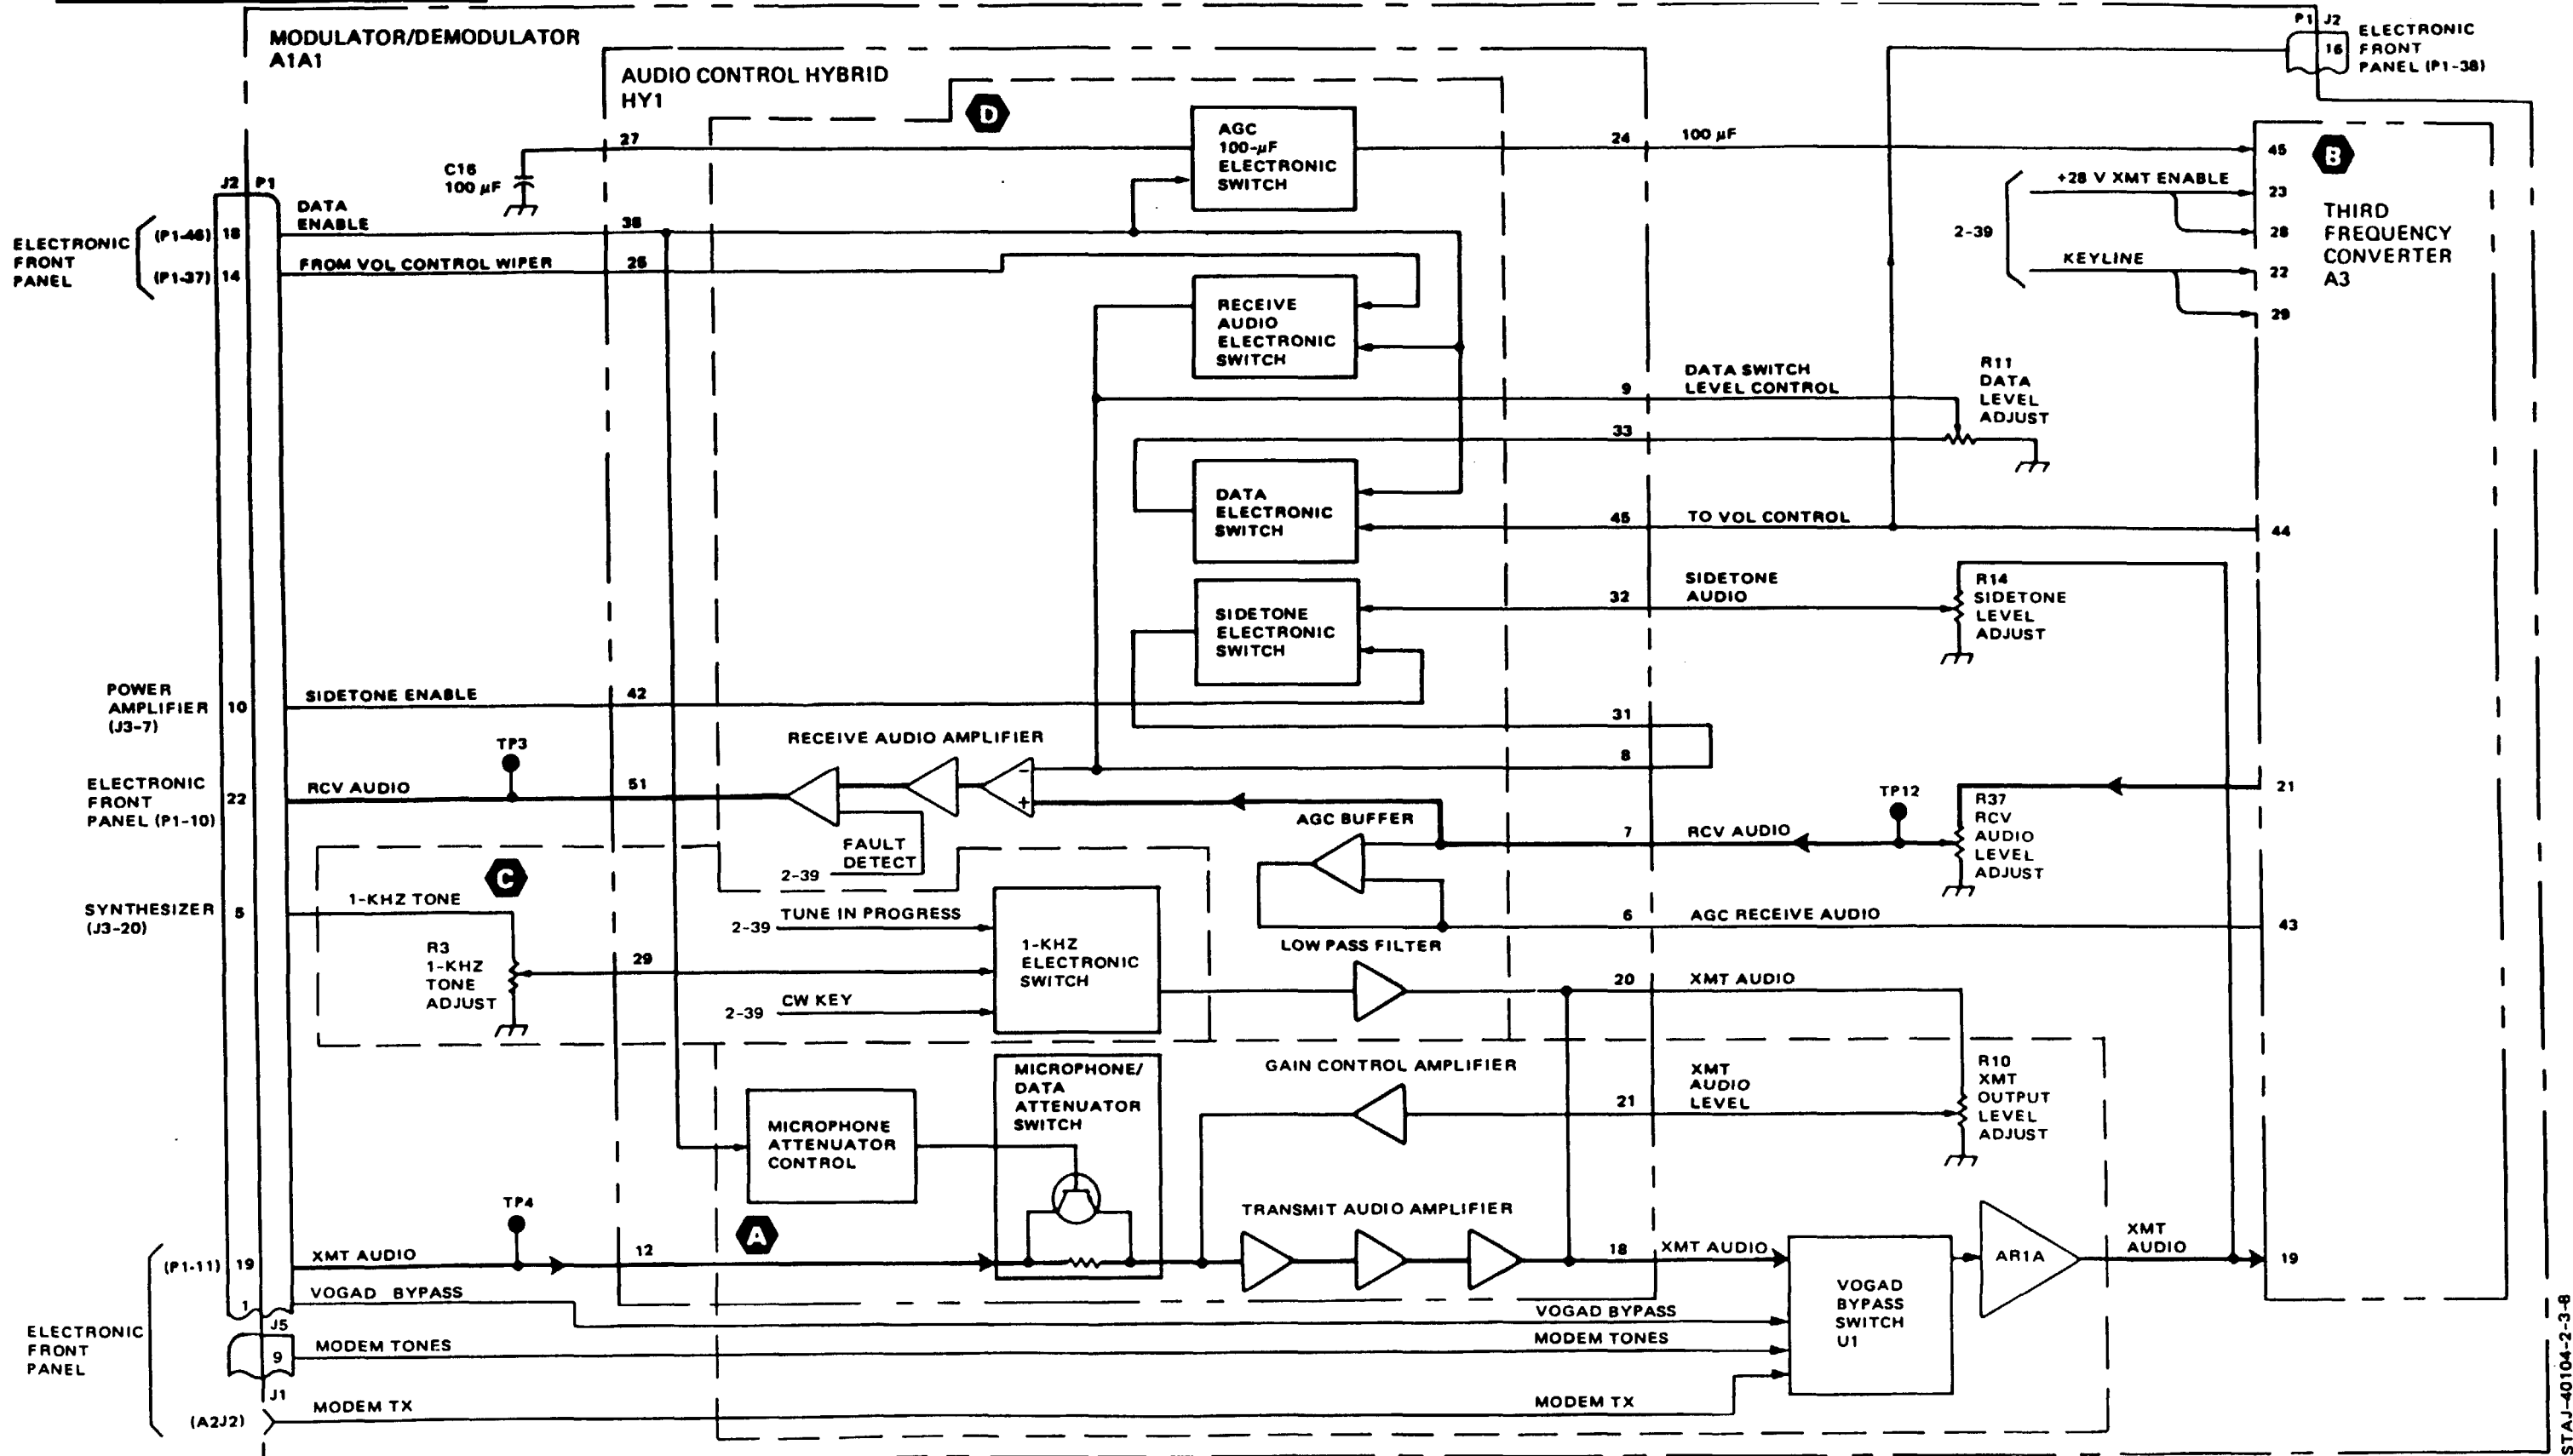

Figure 2-15. Audio Control Hybrid (Sheet 2)
**AUDIO CONTROL HYBRID (5 of 6), fig 2-15, sh 3**